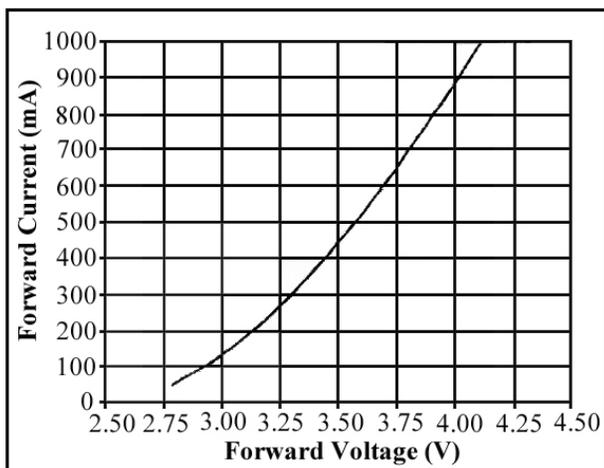

Fig.1a: I_f vs. V_f curve for Cree MX-6 LED at $T_j = 25^\circ\text{C}$ (from datasheet)
- The forward voltage drop and forward bias current to give 100% relative luminosity is quite high. From fig. 1a and 1b it is evident that to get a 100% relative luminous flux at rated junction temperature we require 3.3V at 300 mA^[1].